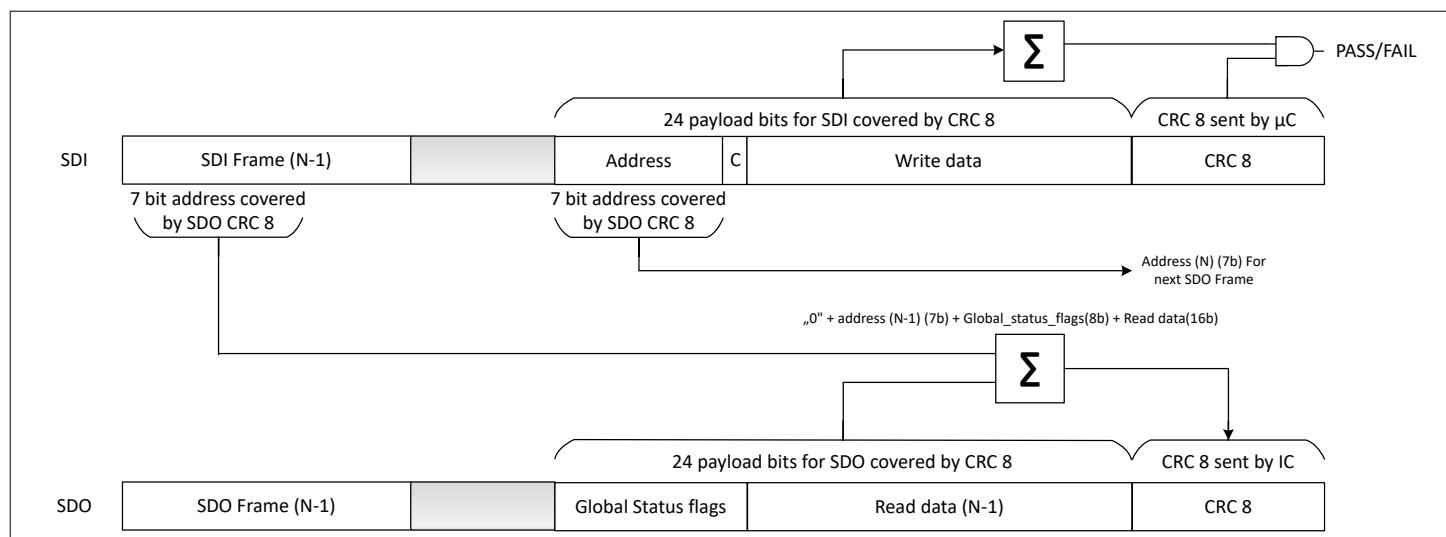

Figure 21 SPI CRC8 calculation for next-frame response (NFR)
- For SDO next-frame response the CRC8 is calculated for a 32 bit payload consisting of: dummy "0" bit + received 7 bit address (previous frame) + SDO 8bit Global Status Flags + SDO 16bit read data, CRC8 bits excluded (see Figure 21).